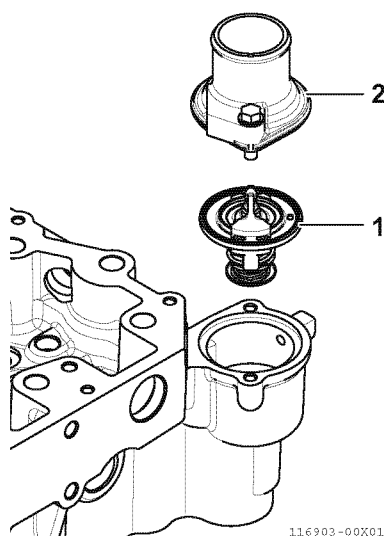

Fig.40-22
- 1 - Install the thermostat (1, Fig.40-22) to the cylinder head.
- 2 - Install the thermostat cover (2, Fig.40-22) and tighten it with the cover mounting bolts.